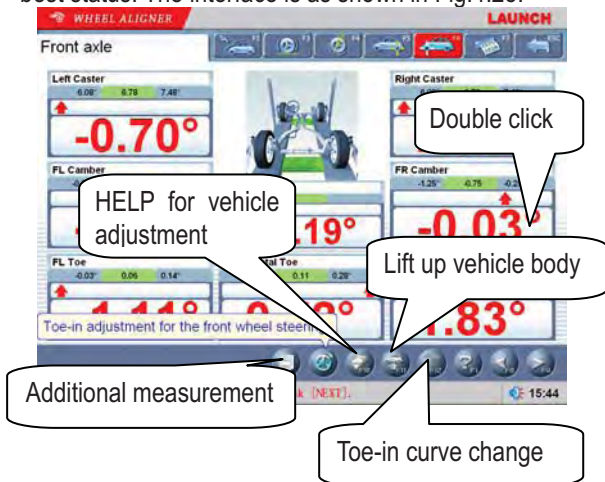
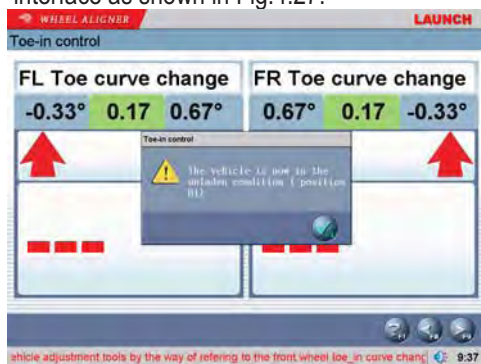

Fig.4.25
Fig.4.27
This interface can provide the real-time result related to front axle measurement, the operator can compare the measurement result with the reference data while adjusting the vehicle, until the vehicle is adjusted to the best status. The interface is as shown in Fig.4.25.
3. The vehicle is now in put-down status (position B1). Adjust the vehicle front toe-in to the allowed scope according to the standard specifications (see Fig.4.25). Put up the vehicle with the special tools equipped according to the prompts on the screen. Click [NEXT] button, the screen will display the interface as shown in Fig.4.27.